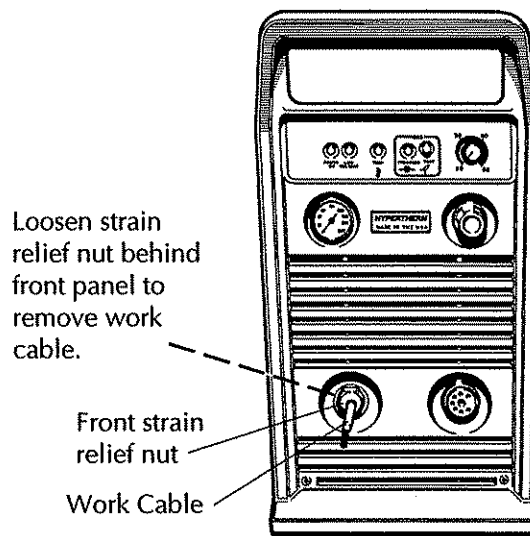

Figure 4 - Feed Work Cable Through Front of Power Supply
7. Loosen the strain relief nut located behind the front panel and pull the old work cable and strain relief from the power supply - Fig. 4.
8. Remove the strain relief nut on the new cable and press strain relief into the hole in the front panel - Fig. 4.
14. Tighten the front strain relief nut - Fig. 4.